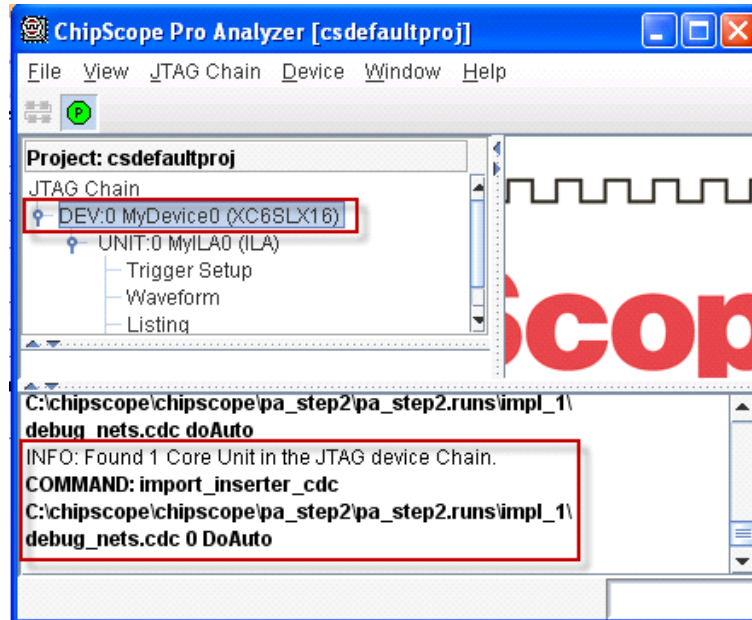

Figure 5: Device Configuration and ILA Core Information
- b. You can now verify the device configuration and ILA core in the ChipScope Pro Analyzer main window, as shown in Figure 5, page 14.
1. With the item **DEV:0 MyDevice0 (XC6SLX16)** expanded, as shown in Figure 5, double-click **Trigger Setup**. The Trigger Setup display appears in the upper right pane.